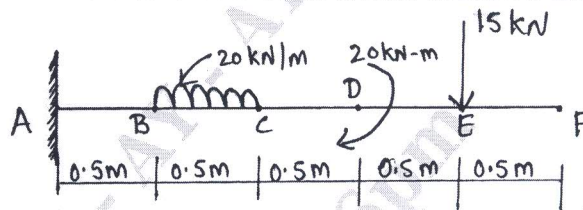

Fig Q5(b)
- b. Draw the SFD and BMD for the cantilever beam loaded as shown in Fig. Q5(b).